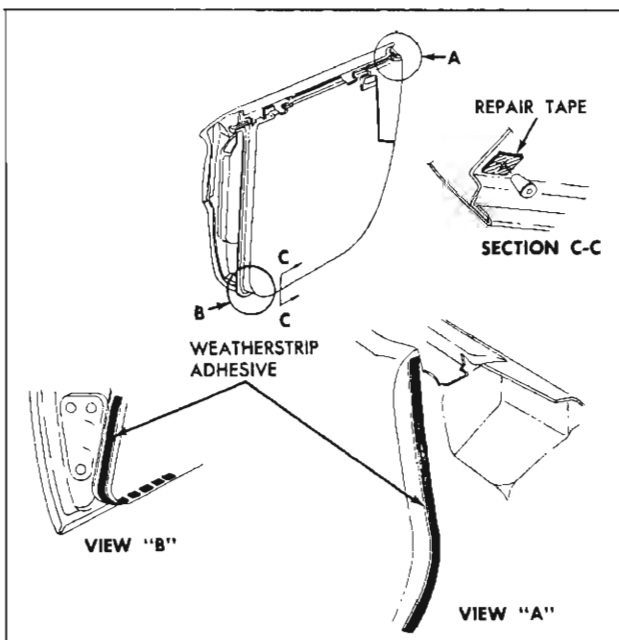

Fig. 36—Rear Door Weatherstrip Adhesive Application
3. Carefully break cement bond securing weatherstrip to door. A flat-bladed tool, such as a putty knife, will prove helpful in breaking cement bond (fig. 36).
panel piercing can be corrected by installing a $\frac{1}{2}$ " by 1" piece of cloth-backed waterproof tape over piercing and making an "X" pattern slit in tape to accommodate sealing plug. If, after this operation, the plug is still loose; install a second piece of tape over the existing repair. This procedure can also be used to repair any waterleaks that develop at sealing plug locations. A damaged sealing plug must be replaced (see Section "D-D" in Figure 36).
3. Clean off old cement from door to insure a clean cementing surface. Apply a bead of an approved weatherstrip adhesive to lock pillar facing of door and at lower front corner of door (see Views "B" and "C" in Figure 36). When applying weatherstrip adhesive to lock pillar facing of door, begin application at belt line and continue down door for approximately seven to nine inches. If necessary, weatherstrip adhesive can also be applied to hinge pillar facing of door.